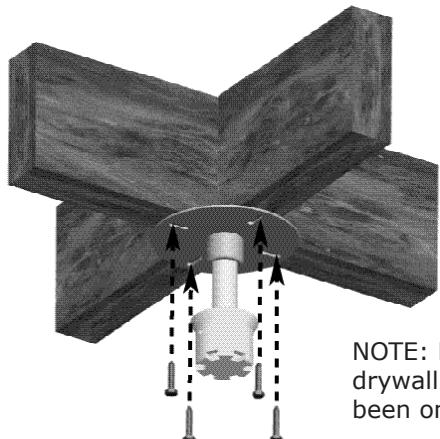

Figure 1
NOTE: Your Garage Fan is intended for mounting at the intersection of a joist and two braces. See Figure 1. If the location you've selected does not have such a configuration, then securely install two pieces of framing material between the joists to form the intersection.
1. Use the four provided Mounting Screws to secure the Mounting Flange/Downrod Assembly to two intersecting joists. Refer to Site Selection & Preparation, pg. 4. See Figure 1.